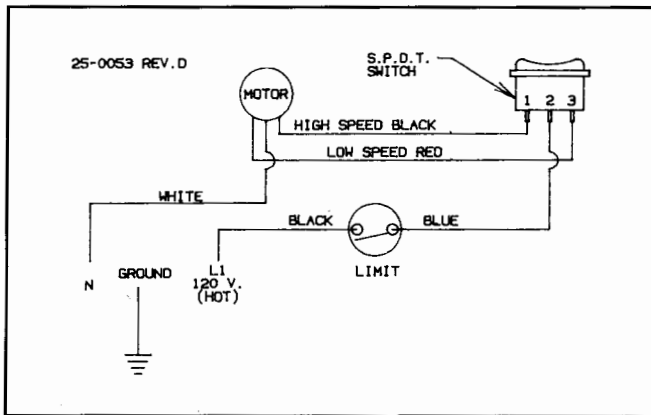

Figure 2.
4. Refer to the wiring diagram, Fig. 2, and connect the hot (120V) electrical service input to the black lead with a wire nut. Similarly connect the neutral to the white lead, and then fasten the ground wire to the green screw provided on the chassis. Field wire must be 75°C, minimum, and of adequate gauge and over-current protection.